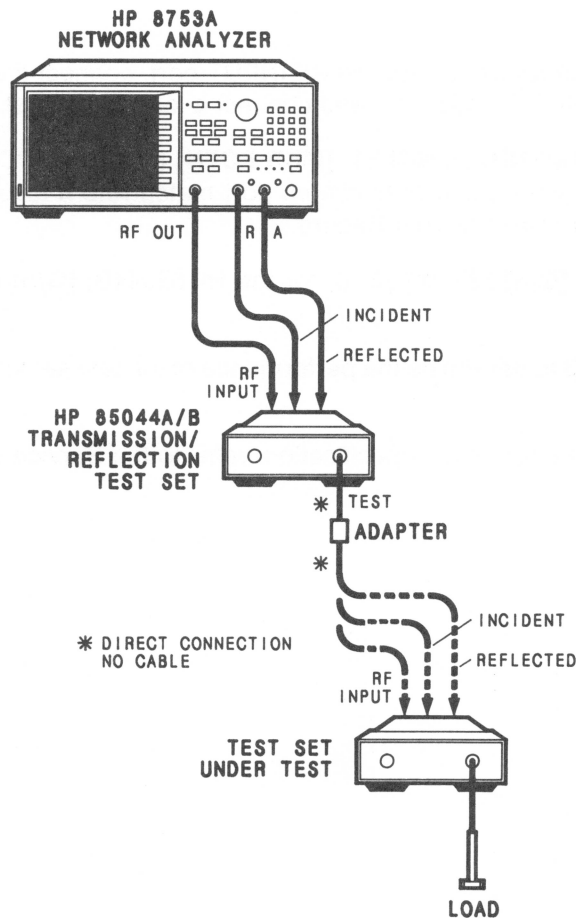

Figure 4-3. Port Match Test Setup.
5. Connect a 50 Ω load on the RF INPUT and REFLECTED ports of the HP 85044A/B under test as shown in Figure 4-3. In addition, to test the port match of the